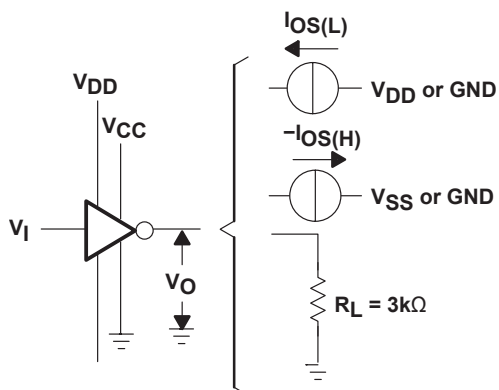

Figure 6-1. Driver Test Circuit for  $V_{OH}$ ,  $V_{OL}$ ,  $I_{OS(H)}$ , and  $I_{OS(L)}$
| $V_{OH}$    | High-level output voltage                         | $V_{IL} = 0.8V$ ,                | $R_L = 3k\Omega$ ,  | See Figure 6-1 | 6    | 7.5  |       | V        |
| $V_{OL}$    | Low-level output voltage (see (1))                | $V_{IH} = 1.9V$ ,                | $R_L = 3k\Omega$ ,  | See Figure 6-1 |      | -7.5 | -6    | V        |
| $I_{OS(L)}$ | Low-level short-circuit output current            | $V_{IH} = 2V$ ,                  | $V_O = 0$ ,         | See Figure 6-1 | 4.5  | 12   | 19.5  | mA       |